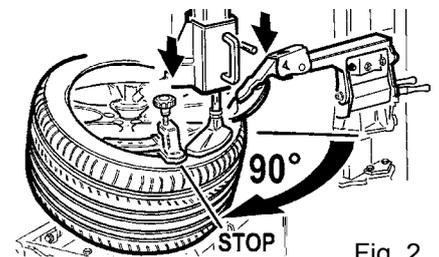

Fig. 2
- lean the manual lever onto the fixed claw (fig. 2).
-Keep the upper bead loosening roller at drop-centre level, spin slightly to insert the pressing tool between the roller and the clamp and pressing onto the tyre side until the upper bead reaches drop-centre level (fig. 2).